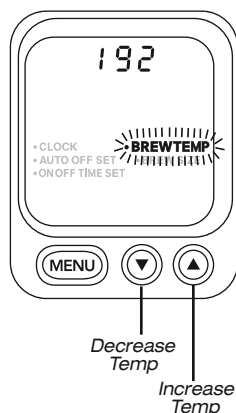

figure 24
1. Press the Menu button until BREW TEMP flashes on the control panel (see figure 24).